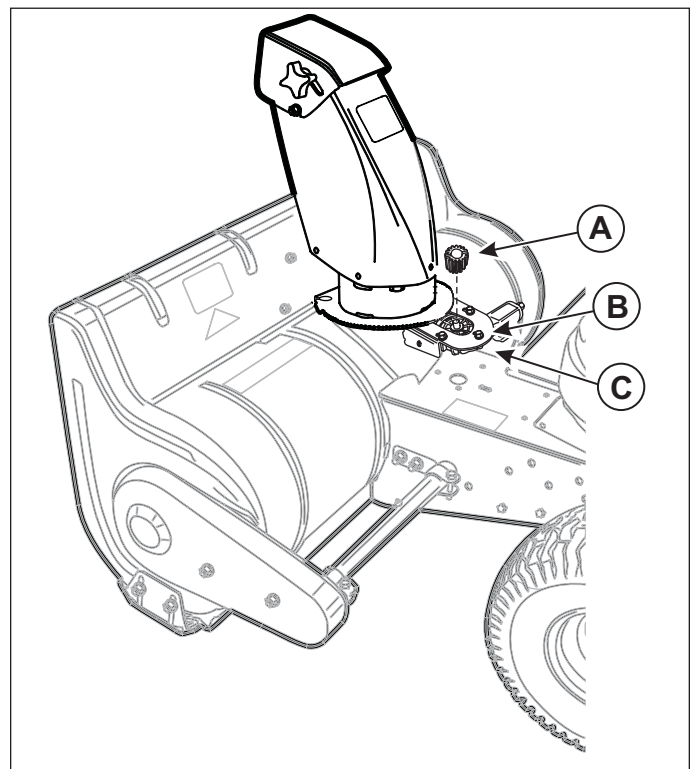

Figure 4. Chute Rotator Gear
1. Remove the cover and loosen the three screws (B, Figure 4) securing the electric chute rotator motor.
2. Adjust the motor (C) so that the gear (A) meshes with the discharge chute ring gear and tighten the adjustment screws (B).